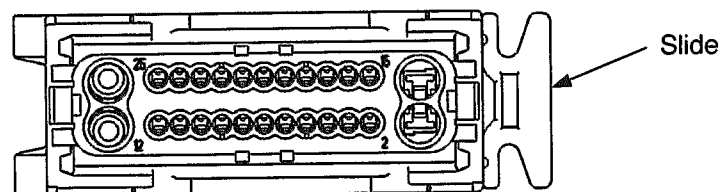

Fig. 9
- (2) Check to confirm the contact size. The contact size is distinguished by the housing cavity's shape.
- (3) Because the contact have an orientation with a direction ,the slide is on the right(see fig.9) and we suppose that vertical and horizontal are expressed.